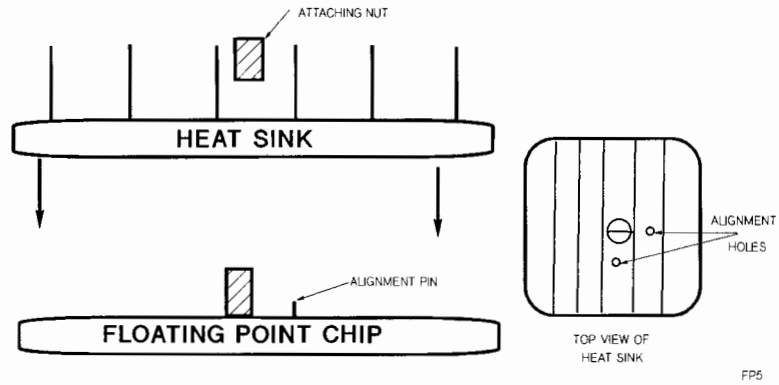

Figure 8-54. Mount Heat Sink on Floating Point Chip
9. See Figure 8-54. Align the holes on the heat sink with the alignment pin on the floating point chip.